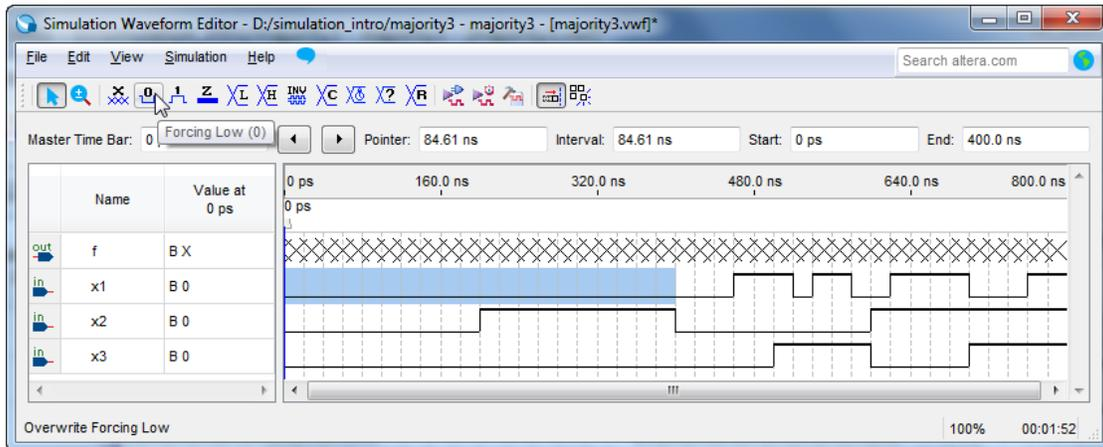

Figure 4. Forcing  $x_1$  to be low from 0 to 400 ns.
These tools are used to force the selected part of a waveform to the value low (0) or high (1), as shown in Figures 4 and 5, respectively.